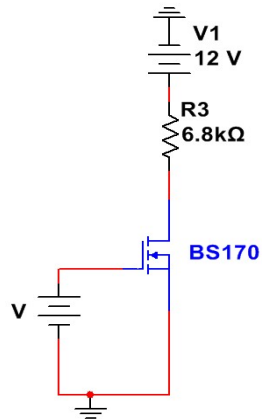

Figure 2: PSpice Circuit Diagram
1. Create the circuit shown in Figure 2. In Multisim we place probes which can help with quick analysis and setting up simulations.